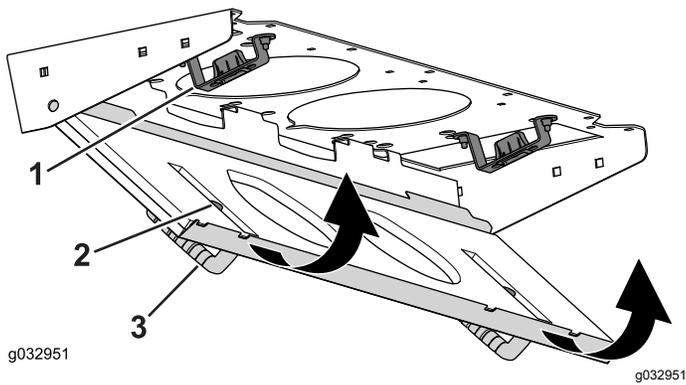

Figure 89
4. Rotate the filter screen around the tabs until the latch locks into the latch-mount assembly (Figure 89).